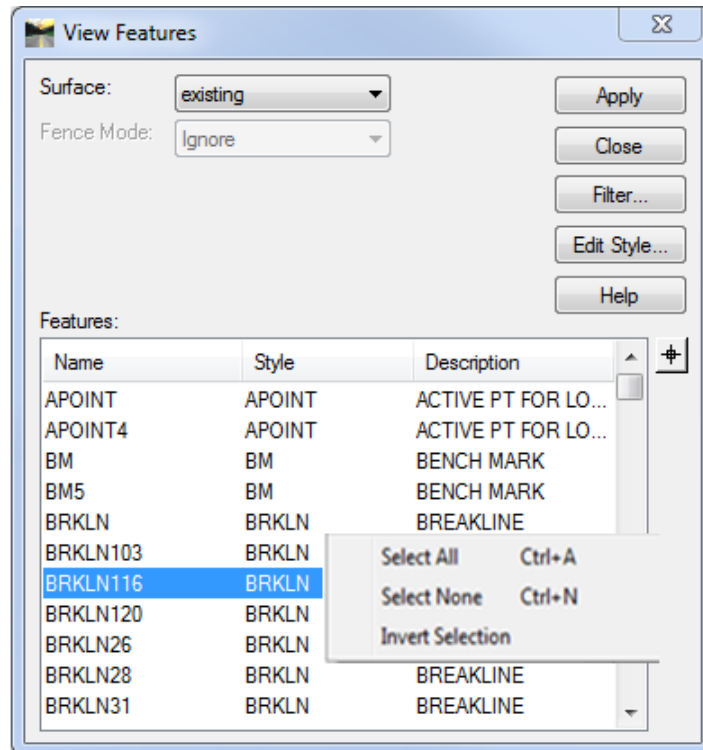

Figure 2-7 InRoads View Feature Dialog Box
- M. On the InRoads Main Menu Bar click on **Surface > View Surface > Features** (Figure 2-7).